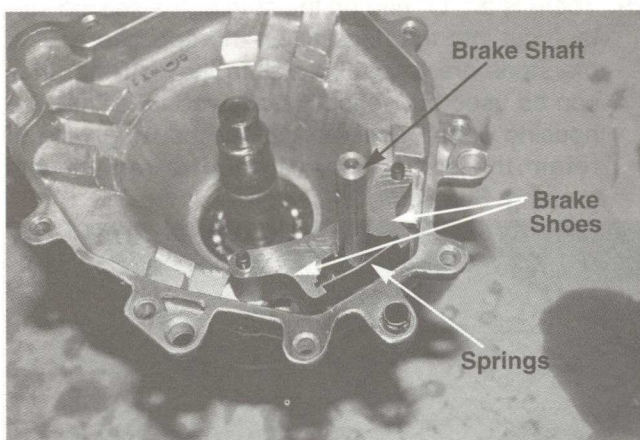

FIGURE 22.
22. Install the brake components by installing the brake actuating shaft into the housing, then installing the brake shoes next, one inverted next to the other. Insert the two dowel pins through the brake shoes into the housing, then insert the brake spring with the bend around the shaft. See figure 22.